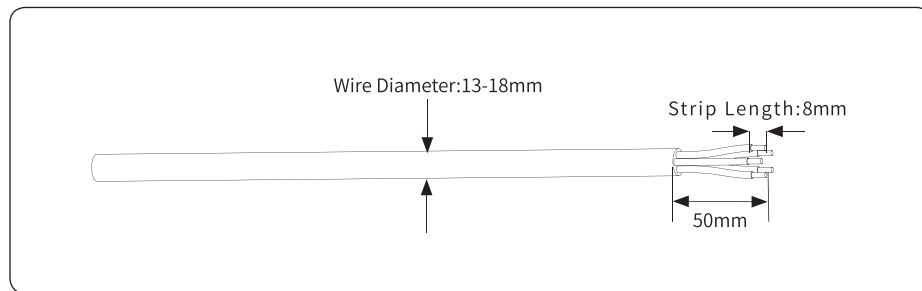

Figure 4-15
2) According to the table above, select an appropriate copper cable, peel the insulation sleeve of AC cable off for 50mm, and peel off the end of 3L /PE / N wires for 8mm, as shown in Figure 4-15: